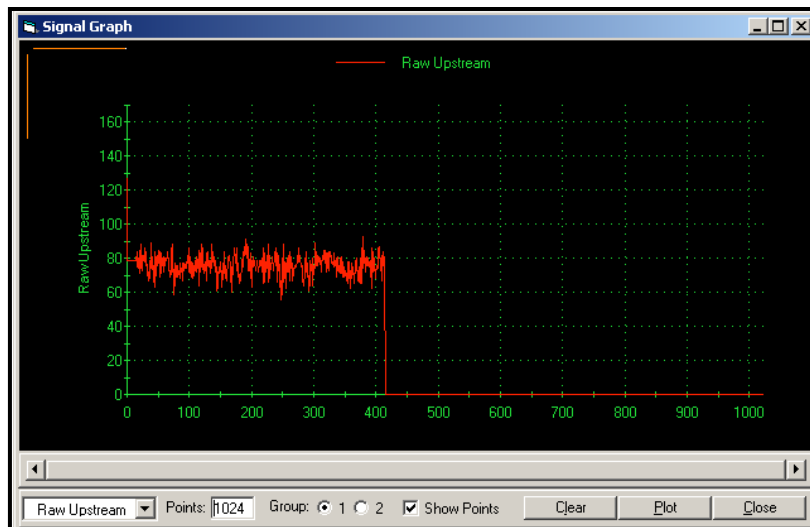

**Figure 7: Active Signal Options**
- To read a signal from the meter, click on the [Read Signals] button. (If the meter is a multi-channel instrument, open the Channel drop-down menu and click on the desired channel.) After a moment, the *Properties* window appears similar to Figure 7.